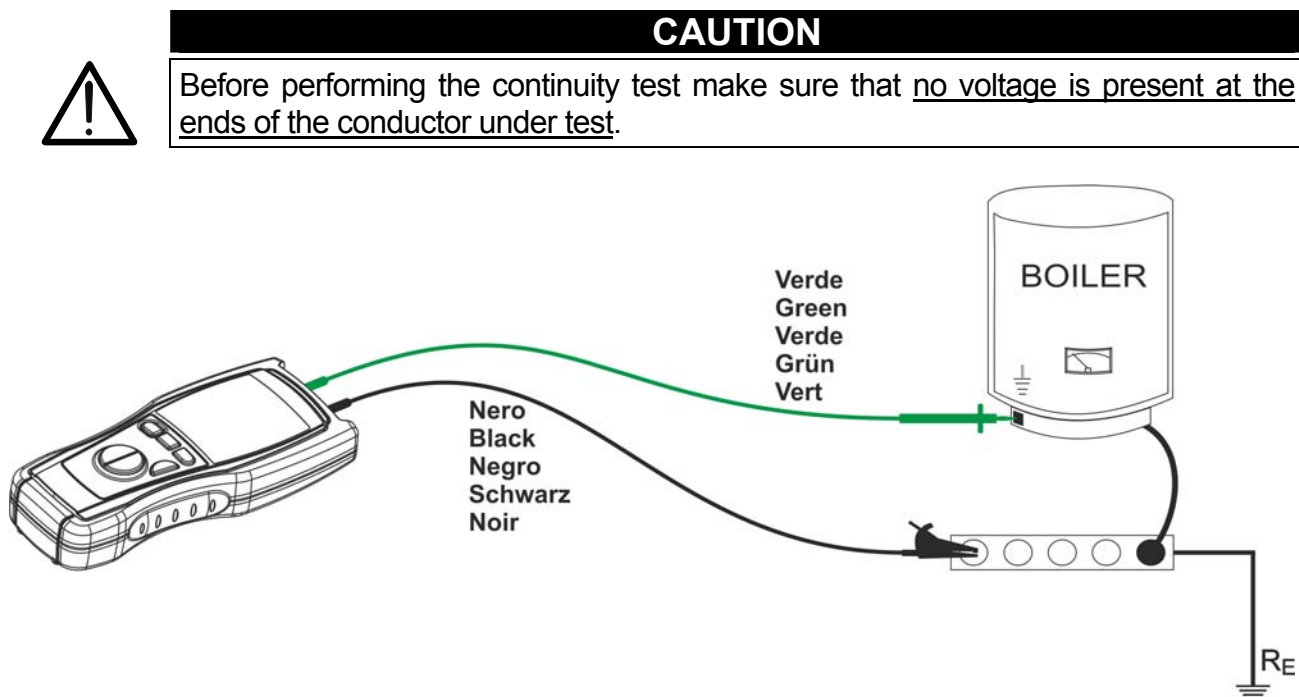

Fig. 9: Connection of the instrument's terminals during test
7. Connect the instrument's terminals to the ends of the conductor on which the continuit  test must be performed (see Fig. 9)